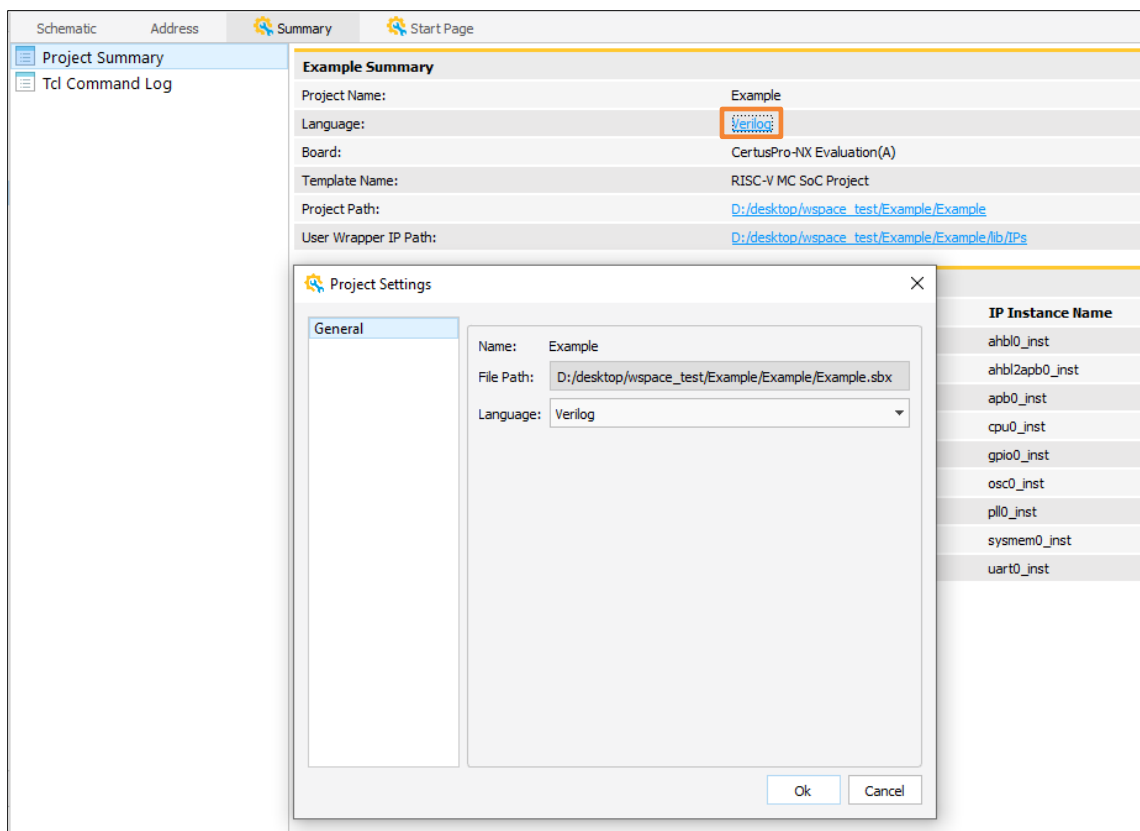

Figure 2.13. SoC Project Summary – Language
10. Click the **Language** link in **Summary** (Figure 2.13) to change the project setting for language.